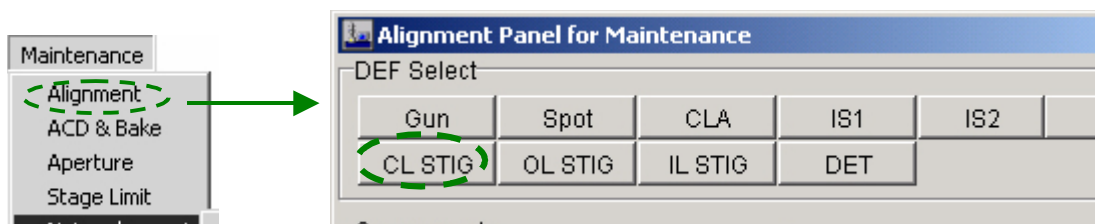

Fig. 5.25 Alignment Panel for Maintenance window (Correcting CL astigmatism)
1. Select **Maintenance** from the **TEM Controller** menu bar and click on **Alignment** to open the **Alignment Panel for Maintenance** window (☞ Fig.5.25).